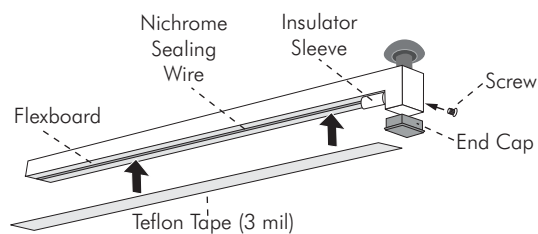

FIGURE 2
7. Apply new Teflon tape (3 mil) to flexboard over nichrome sealing wire. (See Figure 2.)
1. Locate screw and remove screw on right side of sealing arm. Remove black plastic endcap. Remove white plastic Insulator Sleeve. Locate bolt, nuts and spring (insulator assembly). Remove assembly from arm slot by pulling downwards. (A flathead screwdriver may be needed to pry loose) (See Figure 2.)